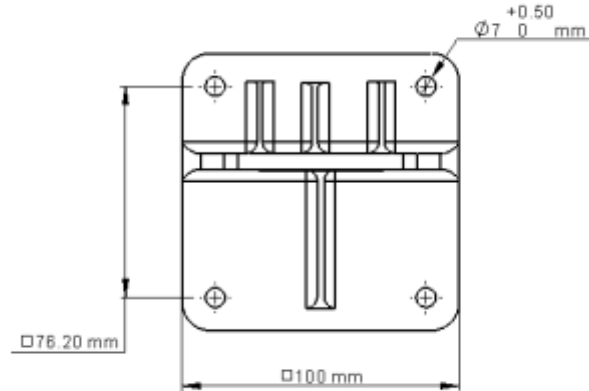

Figure 11: Tilt Mount Base - Plate View
1. Mount the tilt mount base (Figure 11: Tilt Mount Base - Plate View) to a solid structure using four suitable fixings through the four 7mm (0.28") diameter holes. Four captive screws with spring washers are provided in the tilt mount.